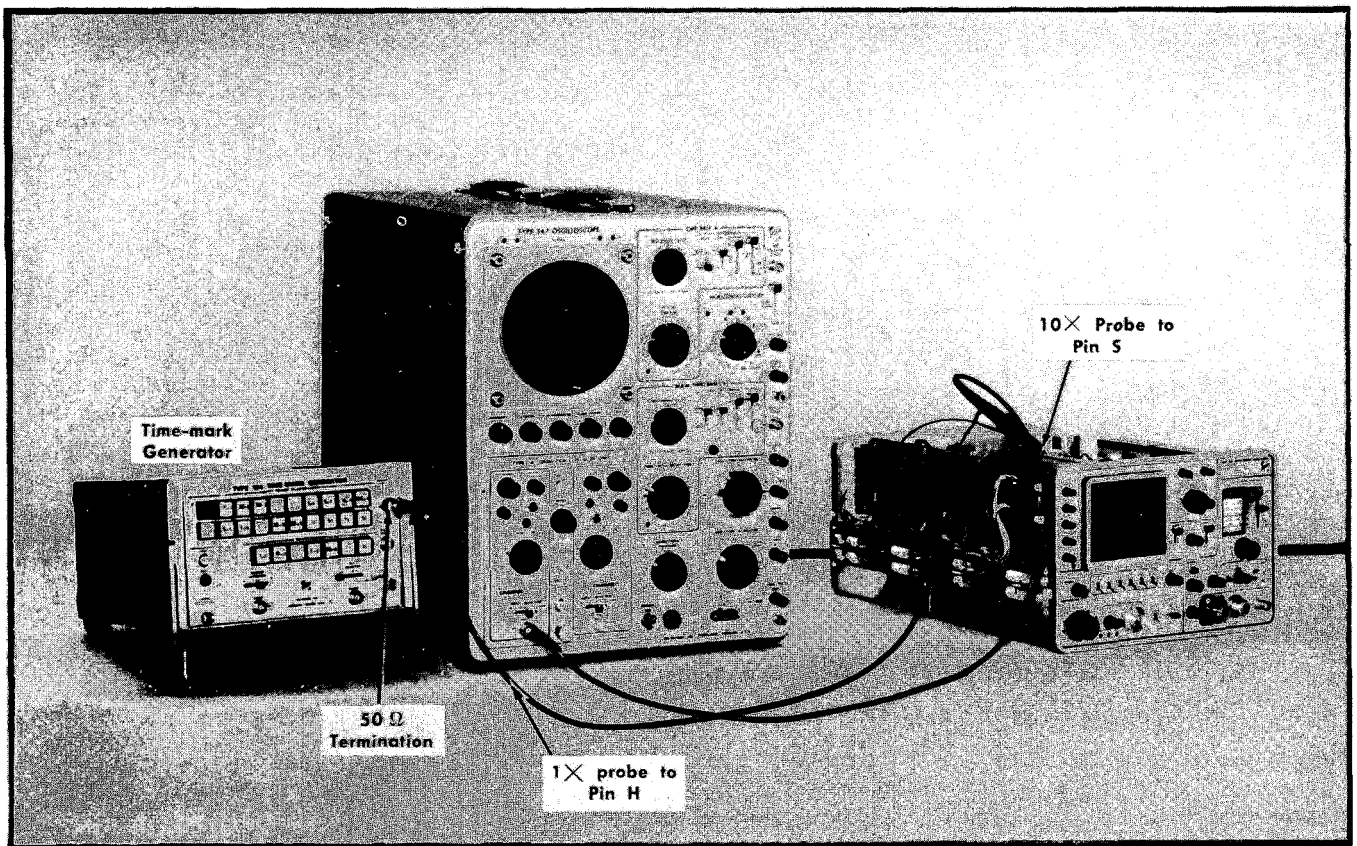

Fig. 6-14. Equipment setup to check and adjust sweep circuits, Steps 12 through 20.
- Equipment setup is given in Fig. 6-14,
- Test equipment setup is given in Fig. 6-14.